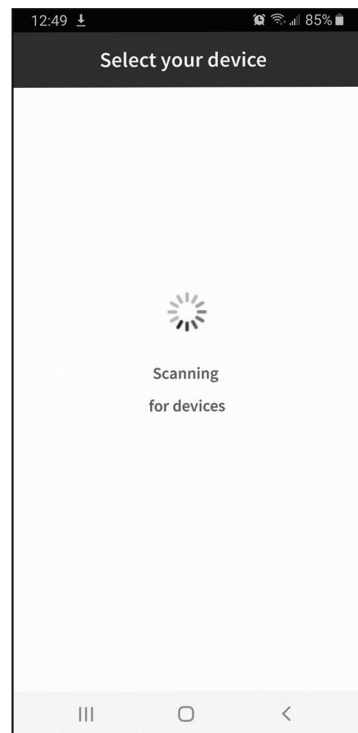

Fig. 5
5. Search for devices and select the device from the list (**Fig. 5 & 6**).